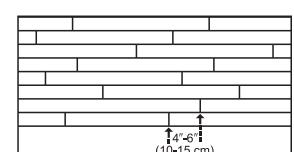

Figure 3
- **Tramex Concrete Moisture Encounter Meter** (Figure 2): Moisture readings should not exceed 4.5 on the upper scale. (Figure 3 shows an unacceptable reading of over 4.5) Concrete Moisture Meters give qualitative reading results-not quantitative ones. These results are a quick way to determine if further testing is required.
• Be attentive to staggering the ends of the boards at least 4"-6" (10-15 cm) when possible, in adjacent rows (Figure 3). This will help ensure a more favorable overall appearance of the floor.
- End-joints of adjacent rows should be staggered a minimum of 4"-6" (10-15 cm) when possible, to ensure a more favorable overall appearance (Figure 3).
- Check for a tight fit between all edges and ends of each plank. End-joints of adjacent rows should be staggered 4"-6" (10-15 cm) when possible, to ensure a more favorable overall appearance (Figure 3).